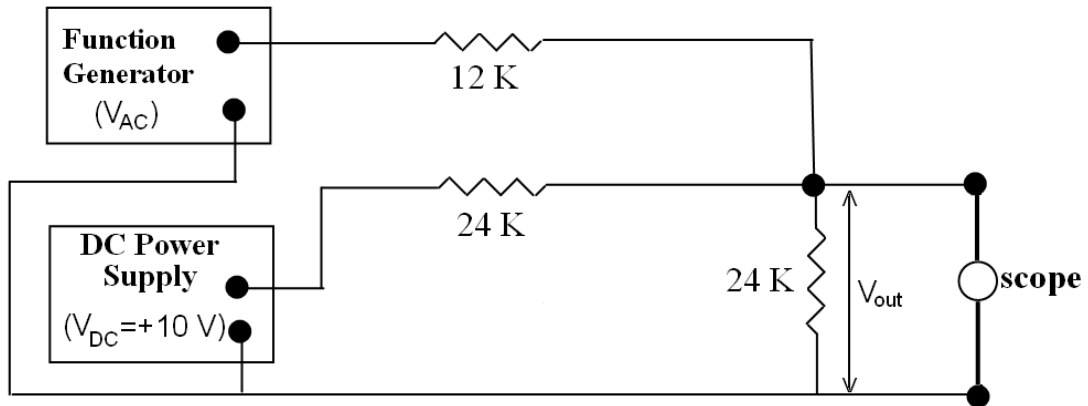
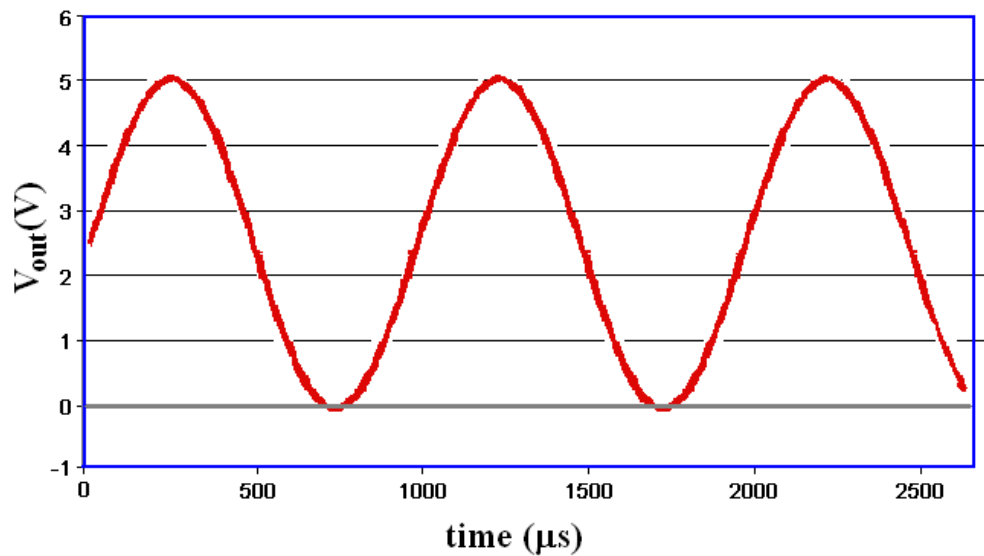

Figure 3: Passive summer.
Figure 4: Output of Passive Summer.
3. *Passive Summer*: The summer adds the DC voltage from the power supply to offset the ac voltage from the function generator (Figure 3). Suppose the function generator creates a sine wave voltage of $V_{AC} = 5 \sin(2\pi ft)$, where f is the frequency and the amplitude is 5 V (the peak-to-peak amplitude would be 10 V), and that the DC power supply provides a voltage of 10 V. Assuming that voltage sources are ideal, it can be shown that $V_{out} = V_{AC}/2 + V_{DC}/4$. Hence that the output will always be positive and it should look like the curve in Fig. 4, below.